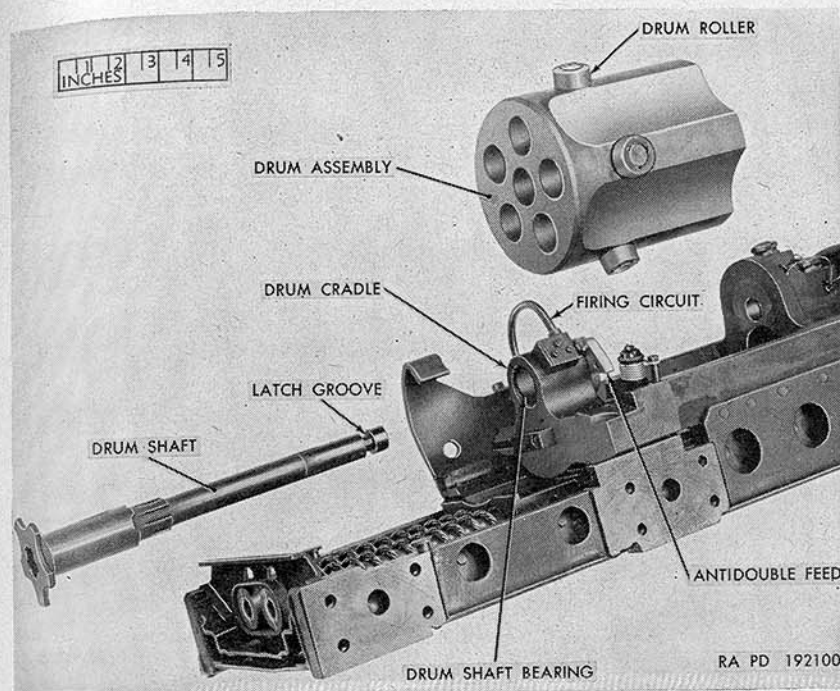
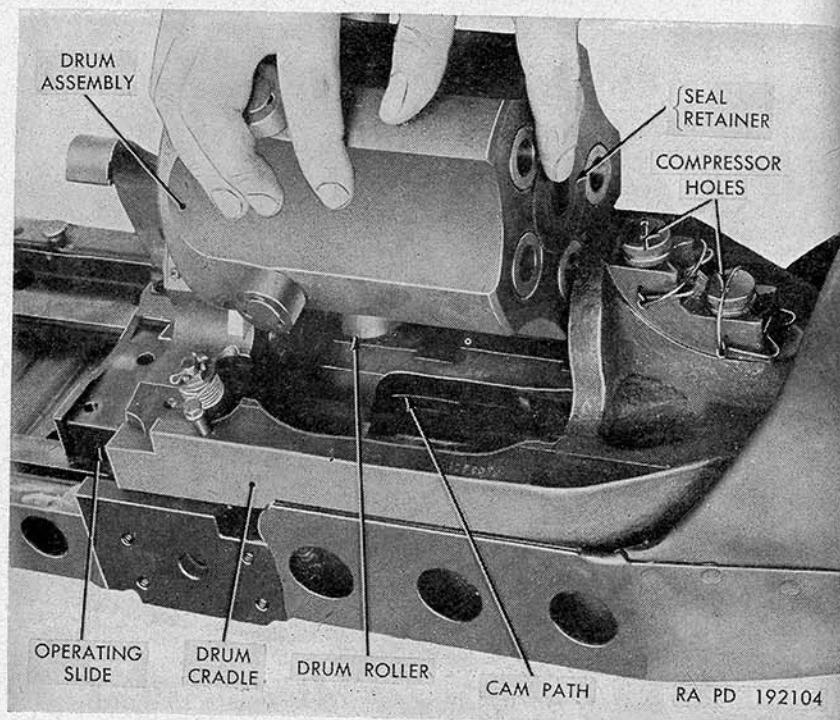

Figure 60. Drum assembly removed from drum cradle.
Figure 64. Installation of drum assembly on gun.
d. Lift upward on drum assembly to relieve pressure on drum shaft with drum lifting hook (fig. 26). Pull "star" end of drum shaft from drum cradle and drum assembly. Lift drum assembly out of drum cradle (fig. 60).
a. Grasp drum assembly (fig. 64) firmly in both hands, keeping index finger over seal retainer to hold it in place. Position the drum assembly over the drum cradle so that one roller is above the cam path of the operating slide.
b. Lower drum roller (fig. 64) into cam path of the operating slide. Take care not to damage the antidouble feed (fig. 60) as the drum assembly is being lowered.
h. Release drum shaft latch. Check to see that the latch plunger has engaged the groove of the drum shaft (fig. 60) by attempting to withdraw the drum shaft.